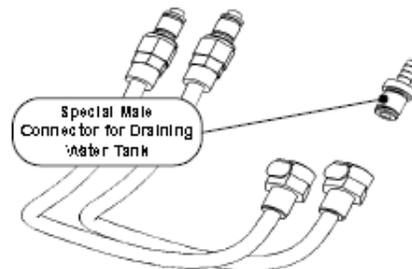

Figure 7-2: Connecting Tubes and Special Male Connector
4. Connect the special male connector Model No. 002-00069 to the female connector of the tube that is connected under the Core socket (see Figure 7-2).